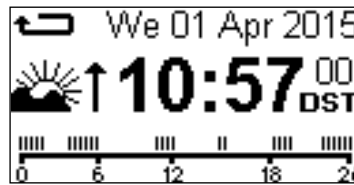

Figure 6.1 – Main timer display
After providing the power to the timer the display shows the main screen (figure 3.2, pos.1) resulted in the figure 6.1.
Note – to review the events it is necessary to be on the main screen of the timer, a figure 6.1.
- If there are no mistakes found during verification, the display will show a message “**Correct Settings**” for 2 minutes and the timer will return to the Main Screen (figure 6.1);